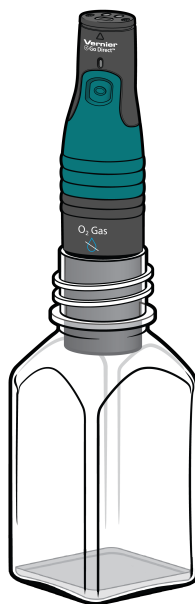

Figure 1
- e. Place the O₂ Gas Sensor into the bottle as shown in Figure 1. Gently push the sensor down into the bottle until it stops. **Note:** The sensor is designed to seal the bottle with minimal force.